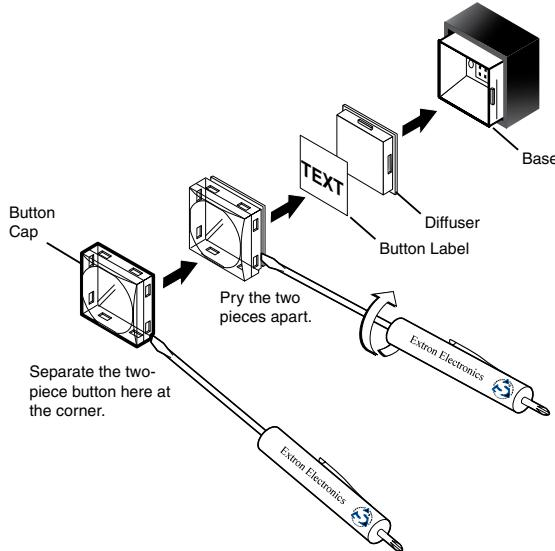

Figure 71. Illuminated Button Label Replacement
1. Remove the button from the matrix switcher; use a small, flat bladed screwdriver such as an Extron Tweeker to gently pry a button out from the front panel (see figure 71).